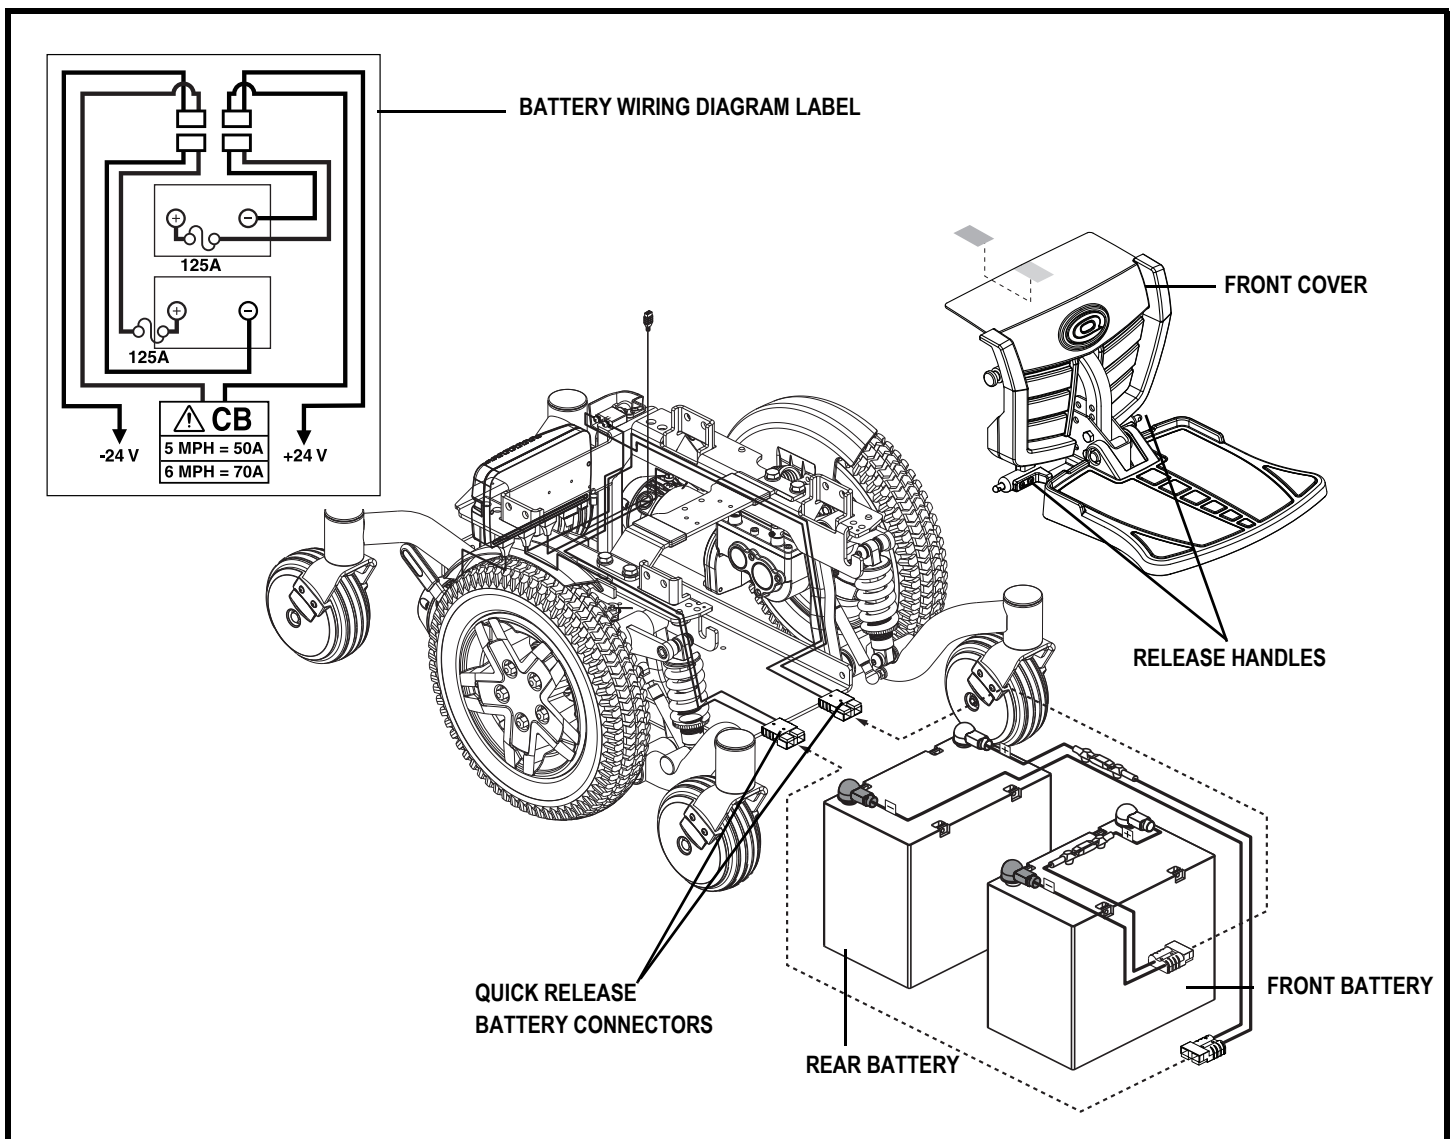

Figure 22. Battery Installation
3. Remove the front cover by squeezing the release handles (see figure 22) and lifting the foot platform bracket up and away from the power base.
7. Connect the battery harness to the new front battery according to the battery wiring diagram. See figure 22.
8. Connect the battery harness to the new rear battery according to the battery wiring diagram. See figure 22.